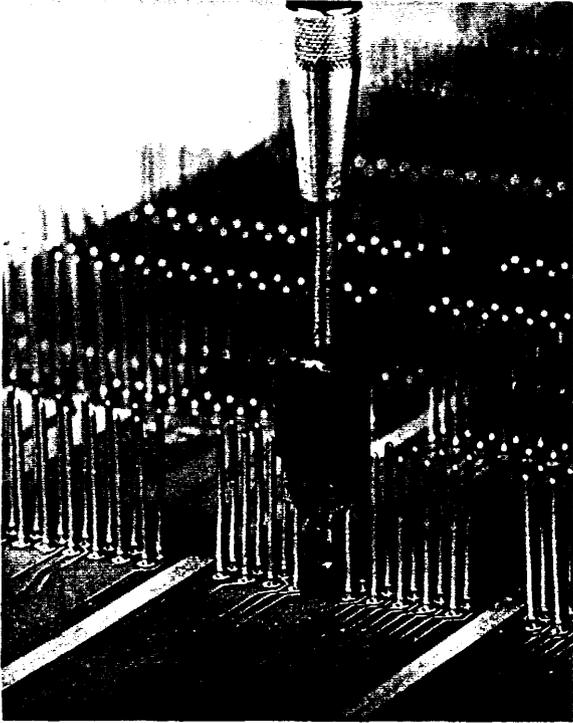

FIGURE 1
5.13 The R-4760 Insertion tool is shown in Figure 1. This tool is used on the pins that are not shouldered pins. The R-4828 tool is to be used on the shouldered pins. To determine the difference in the pins, look at the portion of the pin that rests in the backplane. The shouldered pin has a small wing on two sides of the pin. The R-4828 Detail 2 pin insertion head is to be used on the shouldered pins that are spaced .125" between pins. The Detail 3 head is for shouldered pins that are spaced .100" between pins.
- 5.28 Abort two or three strokes with the tool should be enough to insert the pin properly. The end of the head should rest against the backplane. See Figure 1.
Figures 1 thru 4 on Page 4.